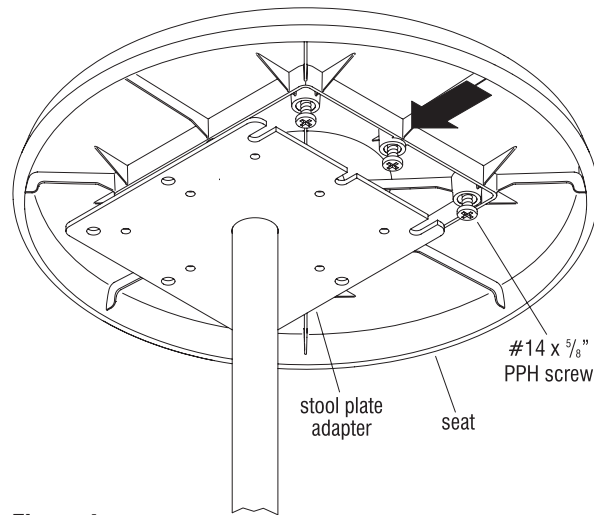

Figure 4
10. Align partially installed screws on seat with slotted holes on the stool plate adapter (Figure 4).